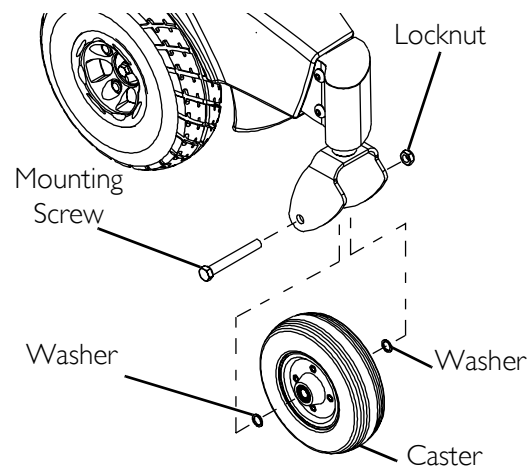

FIGURE 10.3 Replacing Front/Rear Caster Assemblies
NOTE: For this procedure, refer to FIGURE 10.3.
1. Remove the mounting screw, two (2) washers, and locknut that secures the caster to the fork.
3. Secure new caster to fork with existing mounting screw, two (2) washers and locknut (FIGURE 10.3). Securely tighten.